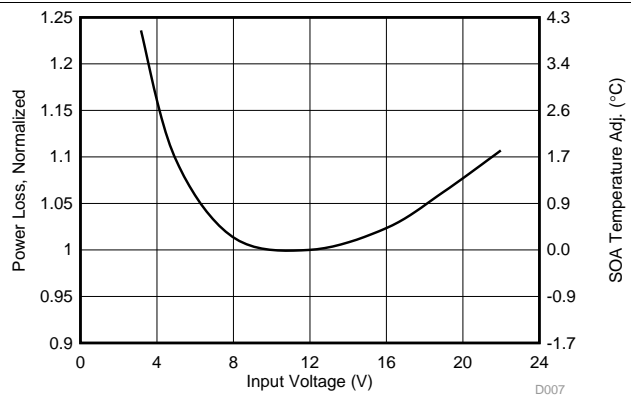

Figure 6. Normalized Power Loss vs Input Voltage
- Normalized power loss for input voltage ≈ 1.01 (Figure 6)
- SOA adjustment for input voltage $\approx 0.14^\circ\text{C}$ (Figure 6)